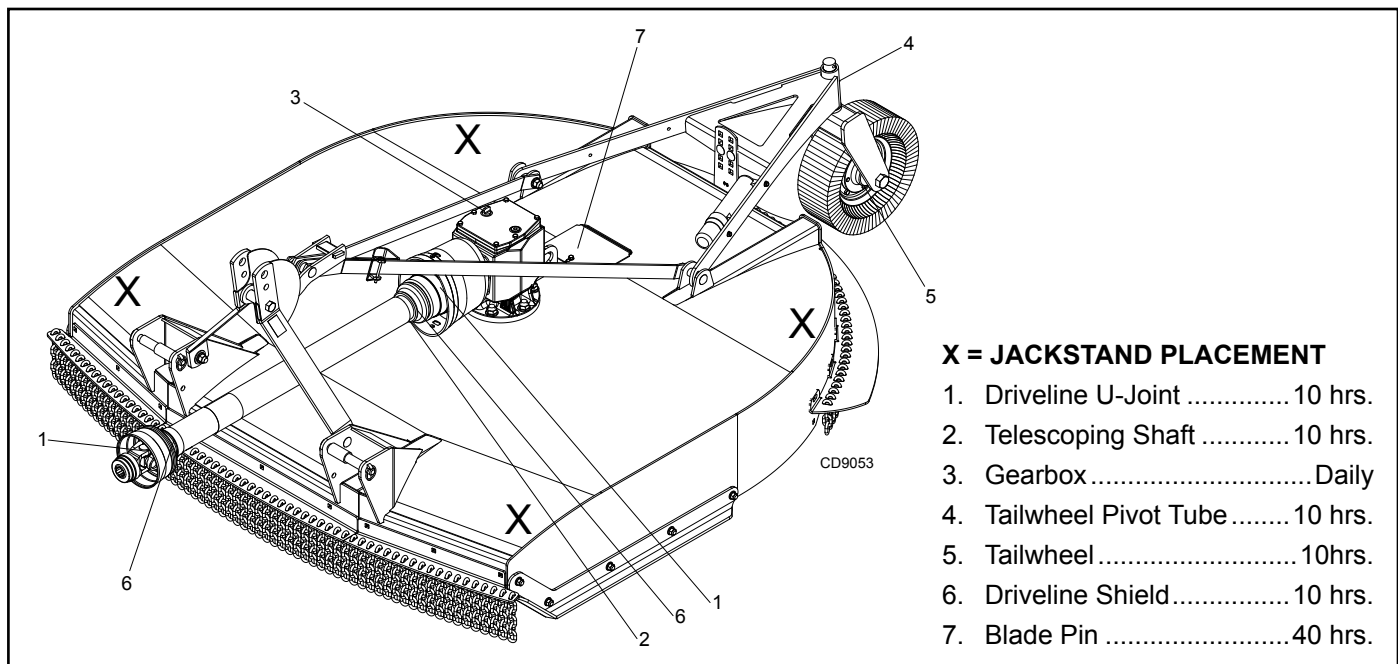

Figure 12. Jackstand Placement and Lubrication Points
1. Jackstands with a load rating of 1000 lbs. or more are the only approved blocking device for this cutter. Install jackstands (shown by Xs in Figure 12) under the cutter before working underneath unit.
2. See Figure 12 for lubrication points and frequency or lubrication based on normal operating conditions. Severe or unusual conditions may require more frequent lubrication.
- If blade pin (7) is seized in crossbar and extreme force will be needed to remove it, support crossbar from below to prevent gearbox damage.
2. Raise cutter and block securely (see Blocking Method, Figure 12).
3. Open blade access cover and align crossbar assembly (2) with blade access hole in the cutter frame. Remove cap screw (13) blade pin lock clip (12) keyhole plate (11) and shims (8, 9 & 10) if required. Carefully drive blade pin out of crossbar.
3. Loosen six 12 mm cap screws (7) to remove all tension from the compression springs (5).
4. Hold clutch hub (3) solid and turn shaft to make sure clutch slips.
5. If clutch does not slip freely, disassemble and clean the flange yoke (1), clutch hub (3), drive plates (4 & 5), and thrust plate faces (6).
7. Compress each of the six compression springs (8) by tightening the six cap screws (7) and lock nuts (10). The compression springs should be compressed to a height of 1-7/16", not including washer (9). The minimum spring height is 1.36". See Figure 12.
8. If a clutch continues to slip when the springs are compressed to 1.36", check friction discs (2) for excessive wear. Discs are 1/8" when new. Replace discs after 1/16" wear.